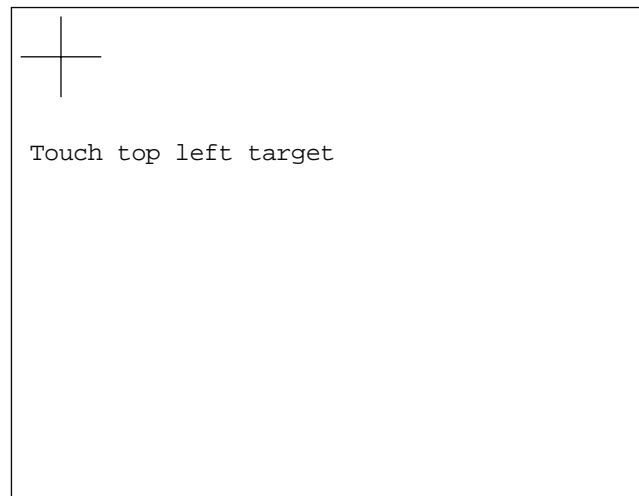

Figure 7.2 Initial calibration display
1. At power-up, continuously hold a finger in contact with the screen until (after approximately 30 seconds) the diagnostic display appears as shown in figures 7.1a/b. Operate the Touch cal key to call the first calibration screen, as depicted in figure 7.2*